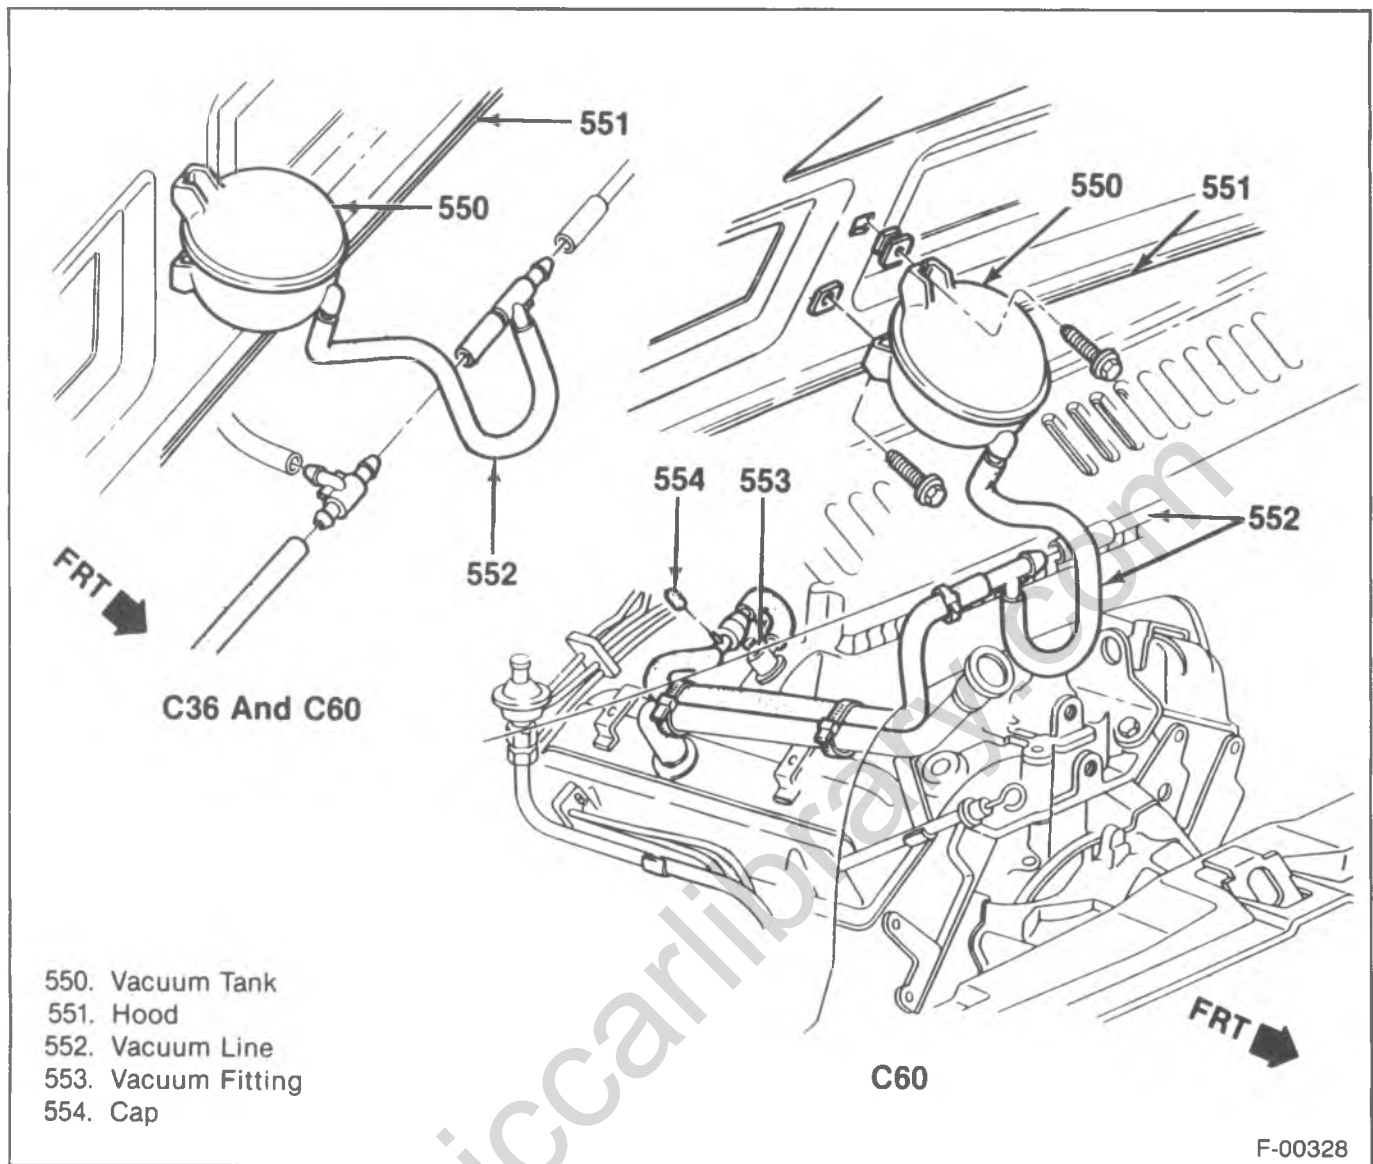

Figure 63—Vacuum Tank Assembly — 4.3L Engine
↔ Remove or Disconnect (Figures 63, 64 and 65)
↔ Install or Connect (Figures 63, 64 and 65)
1. 4.3L Engine (figure 63).